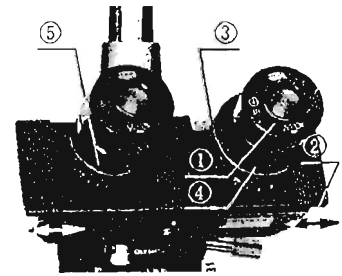

Fig. 2
- 2) Looking through the right eyepiece (with cross hairs) with your right eye, rotate the diopter adjustment ring ① until the cross hairs are sharply focused. (Fig. 2)
- 3) Looking through the both eyepieces with both eyes, adjust the interpupillary distance, sliding the knurled dovetail slides ② of the right and left eyepiece tubes, until perfect binocular vision is obtained.